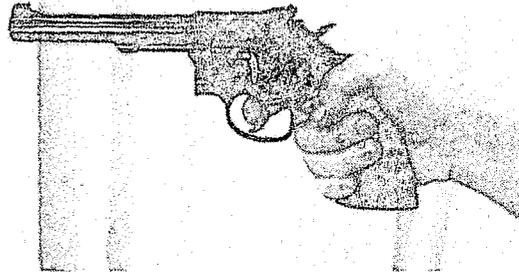

Figure 6-9
- c. The trigger finger should be positioned properly for good, "straight back" trigger control (See Figure 6-9) (See Trigger Control). If it is not possible to place the finger properly, a change of grips is essential. (See Chapter II Grips).
- d. The wrist should be straight and locked. (See Figure 6-9) Barrel, frame, and forearm in a straight line.